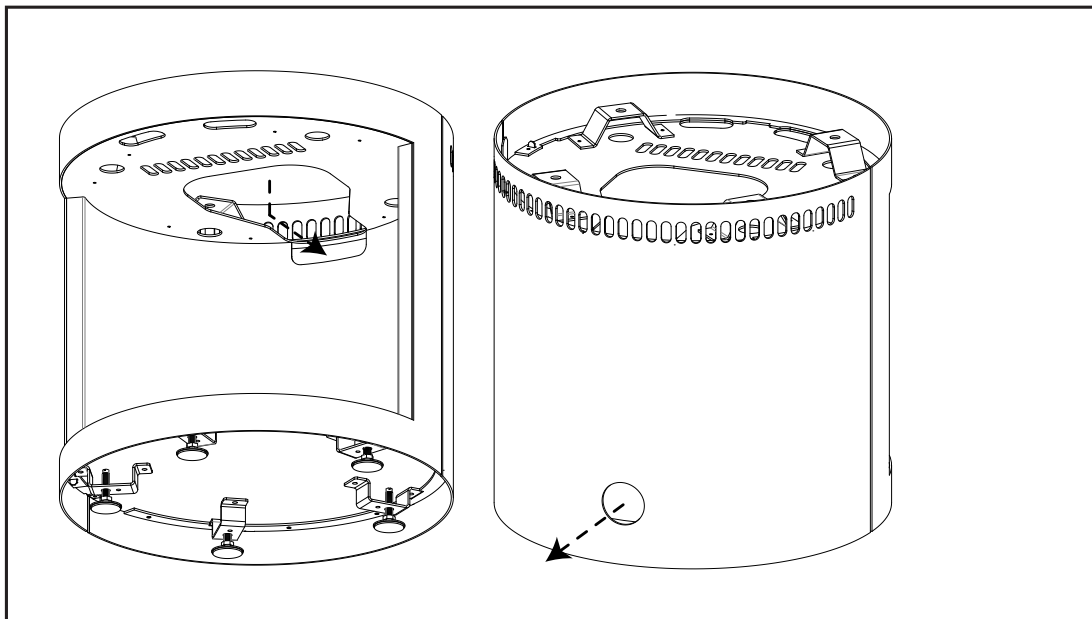

Figure 91: Wood Pedestal Gas & Electrical Rerouting
The wood pedestal has a knockout located at the top of its back wall that will allow the gas and electrical connection to pass through. This knockout allows access to the hollow back wall of the pedestal, which then leads to two (2) openings at the back of the pedestal (see Figure 91).